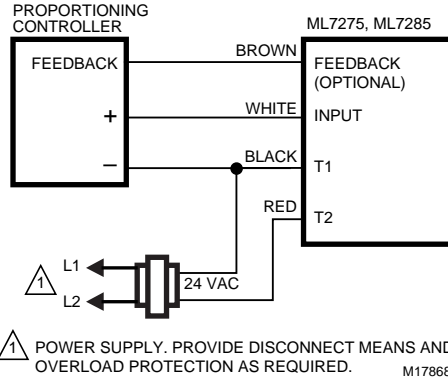

Fig. 8. Typical wiring.
4. See Fig. 8 for a typical wiring connection.